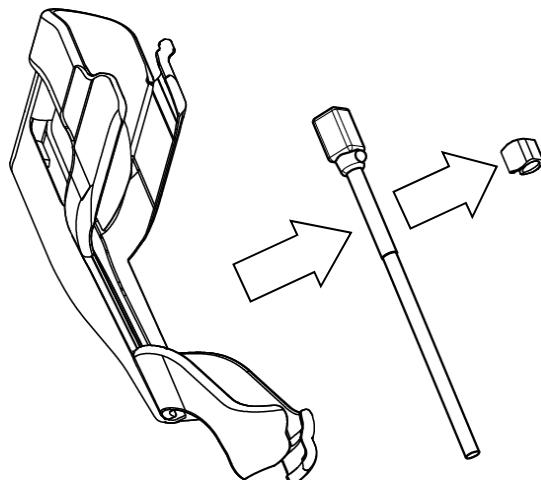

Fig. 12 How to release magnetic sensor from the Magnetic sensor attachment
2) Detach the magnetic sensor and the Spacer for EZU-RV2S from the Magnetic sensor attachment as shown Fig. 12.